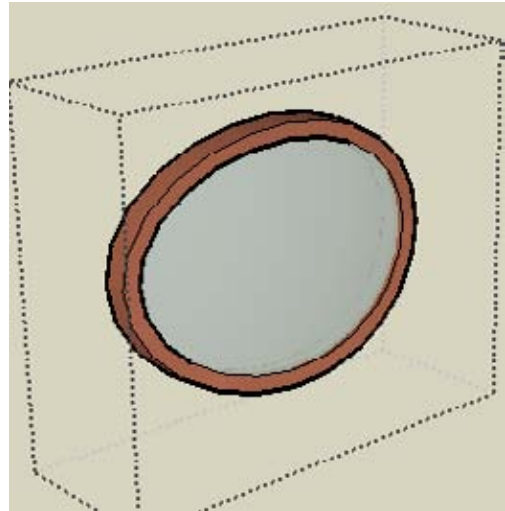

Figure 4-82
4. Run Follow Me on the frame shape group. To remove the little edges throughout the frame, select everything inside the group, right-click, and choose Soften→Smooth Edges. Adjust the sliders until the edges disappear (Figure 4-82).